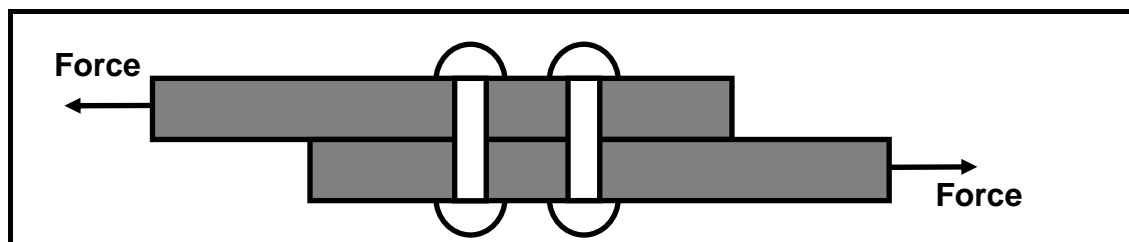

FIGURE 1.5
1.15 What type of stress are the rivets shown in FIGURE 1.5 subjected to?